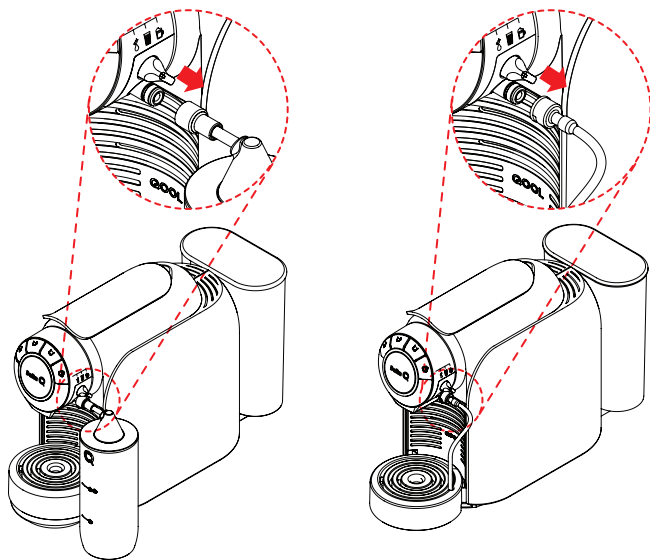

Fig. 31: Remove the deposit or milk suction tube out.
- Remove carefully the deposit or milk suction tube out (see **Fig. 31**).